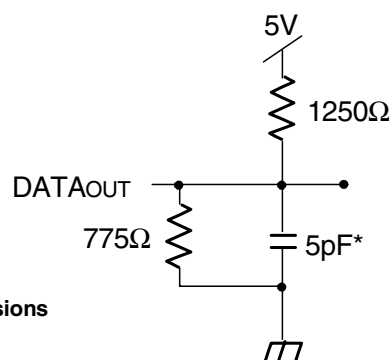

Figure 2. Output Test Load
1. Transition is measured 0mV from Low or High-impedance voltage Output Test Load (Figure 2).
- Transition is measured 0mV from Low or High-impedance voltage with Output Test Load (Figure 2). This parameter is guaranteed by device characterization but is not production tested.
7. This parameter is determined by device characterization, but is not production tested. Transition is measured 0mV from steady state with the Output Test Load (Figure 2).